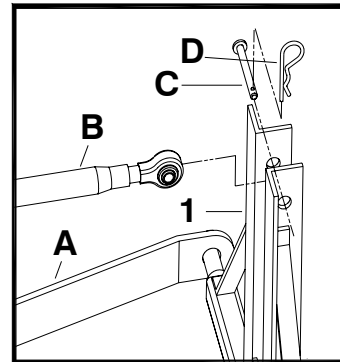

Figure 2
- B. Reposition the 3 Pt. Hitch Frame (1) and align with the 3 Pt. Hitch Clevis (B). Secure the Clevis (B) and Hitch Frame with existing Clevis bolt (C) and Cotter Pin (D). As shown in Figure 2.
- C. Insert the Mini Jr. Spreaders Hitch Tube (E) into the 3 Pt. Hitch Frames Receiver Tube. Secure the Hitch Tube (E) and Hitch Frame Receiver Tube with Lynch Pin (3) and Lynch Pin (2).